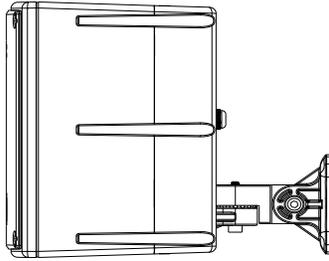

Figure 12
Figure 12 below shows a One Systems 103IM mounted to a PT10. There are four (4) M5 stainless steel bolts that are supplied with the PT-10 for mounting to either the 103IM or the 106IM. Once the PT-10 is mounted to the specific loudspeaker enclosure the two stainless steel bolts on the center piece of the PT-10 may be loosened to allow the bracket to be rotated in both the “pan” and “tilt” axis. Once proper loudspeaker aiming is achieved both of these bolts must be securely fastened to insure the assembly will not move.